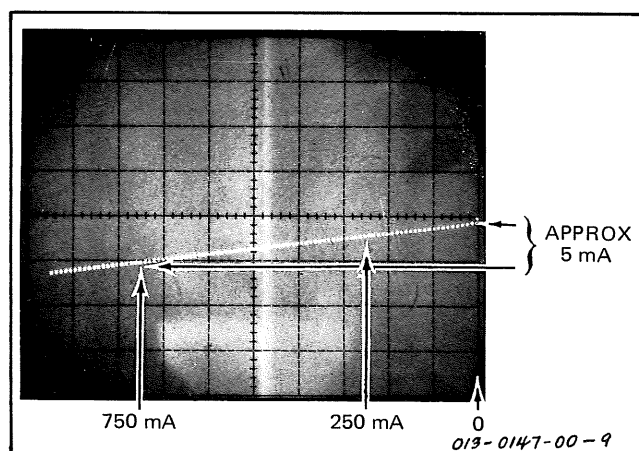

Fig. 2-9. Illustration of Example 1, part n.
n. Check the display from 2.5 horizontal divisions (250 mA to 750 mA). Again, read the regulation from the difference in vertical deflection between the 2.5 division and 7.5 division points. See Fig. 2-9.